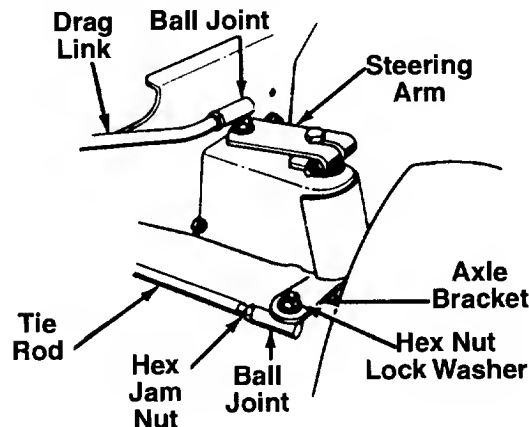

FIGURE 21.
1. Remove the hex nut and lock washer, and drop the end of the tie rod from the axle bracket. See figure 21.
To take off the drag link, remove the nuts and lock washers holding the ball joint to the steering gear and right front axle bracket. See figure 21.